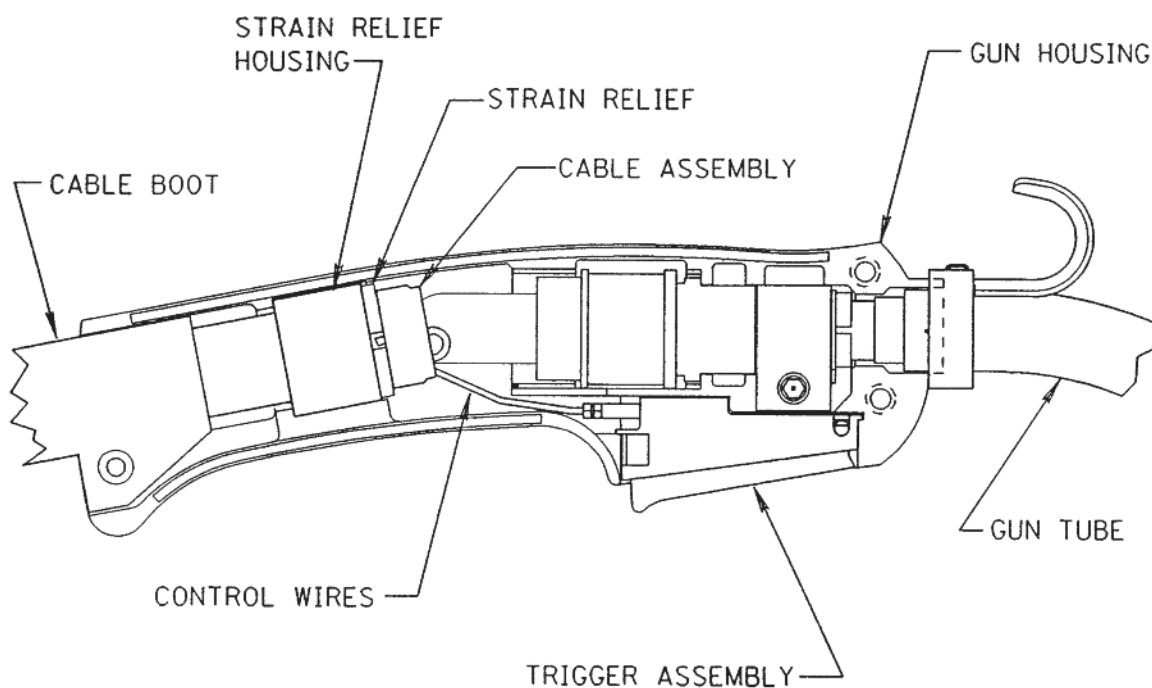

FIGURE E.4
- k) Assemble the cable in the left side of the gun handle. Assemble the trigger into the proper handle cavity. Assemble the right side of the gun handle and tighten the three screws that hold the handle together. Refer to Figure E.4.